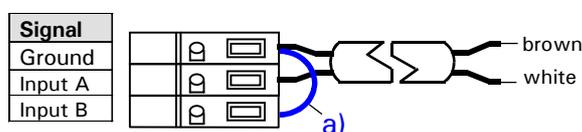

FIGURE 2-1 The MS Connector with the two Inputs – Default Configuration
To interface the MS to the Peak Parking Kit, the two inputs lines (Input A/B) of the control module can be programmed for different input modes via the serial communication interface. FIGURE 2-1 shows the MS connector of the 10-way control cable with the two inputs (Chapter 2, FIGURE 2-3).
- **Input Mode 3** (single line control, default mode) – the position of the micro valve is directly controlled by the status of Input A. When the Input A is connected to Ground, the micro valve will move into position 6-1 (parking mode). An open input will drive it to back to position 1-2. In addition, the Input B is used for enabling/disabling the micro valve. Connecting Input B to Ground enables the valves while an open input will disable it (a wire link connects Input B to Ground – item a) in FIGURE 2-1).